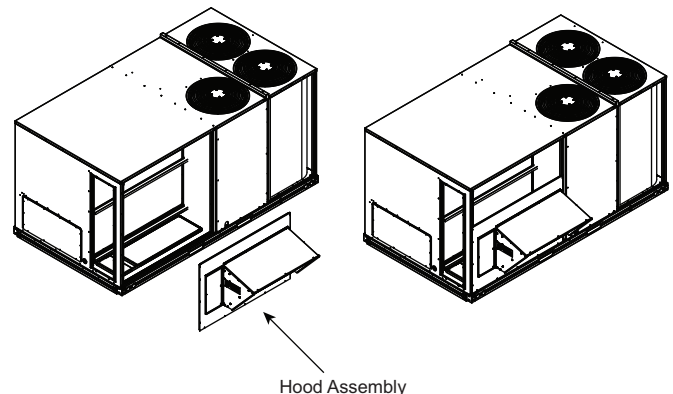

Fig. 3 — Install O/A Damper with Hood Assembly
4. Slide the EconoMi\$er X assembly into the rooftop unit. (See Fig. 3.)
5. Mount the EconoMi\$er X O/A (Outside Air) assembly into the unit R/A (Return Air) section. (See Fig. 3.)